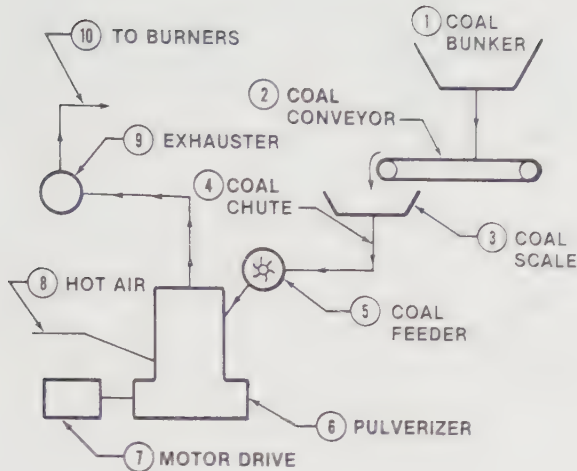

Figure 3-10. Pulverized coal is burned in suspension and requires special precautions when handling because of its explosive properties.
Because of the explosive properties of pulverized coal, special precautions must be taken when handling it. See Figure 3-10. In the basic pulverized coal system, the coal bunker (1) stores the coal before it flows onto the coal conveyor (2). The coal drops into the coal scale (3) and is weighed before being dumped into the coal chute (4) that leads to the coal feeder (5).